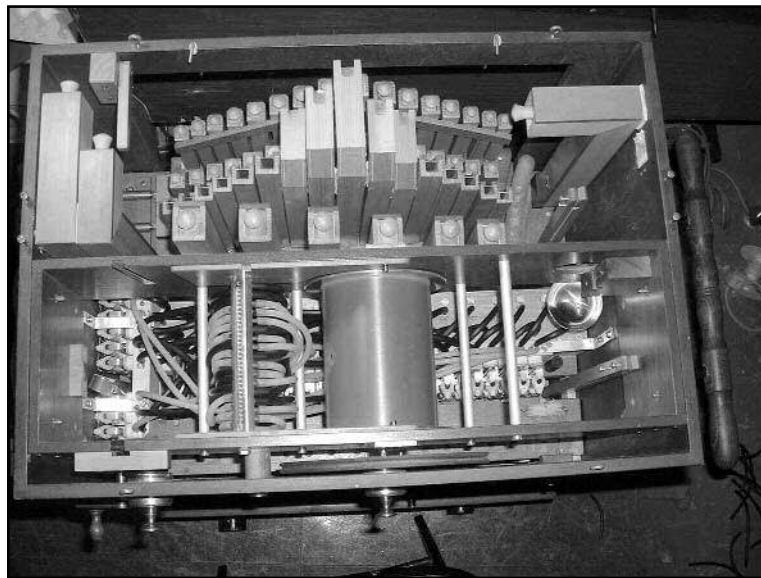

Figure 1. The MIDI interface tucked under the roll frame in a Raffin 31/84.
- The interface must be self-contained within the organ, as shown in **Figure 1**.